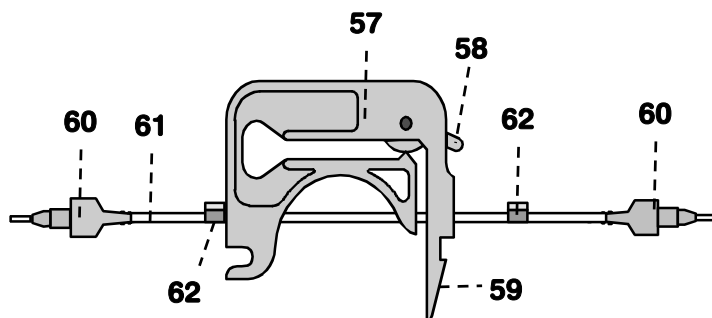

Figure 8: Pump tubing for regenerant path
- Insert the fitted pump tubing **61** as shown in *Figure 8* into the tubing cartridge. The left-hand stopper **62** should latch into the corresponding fixture on the left-hand side of the tubing cartridge.